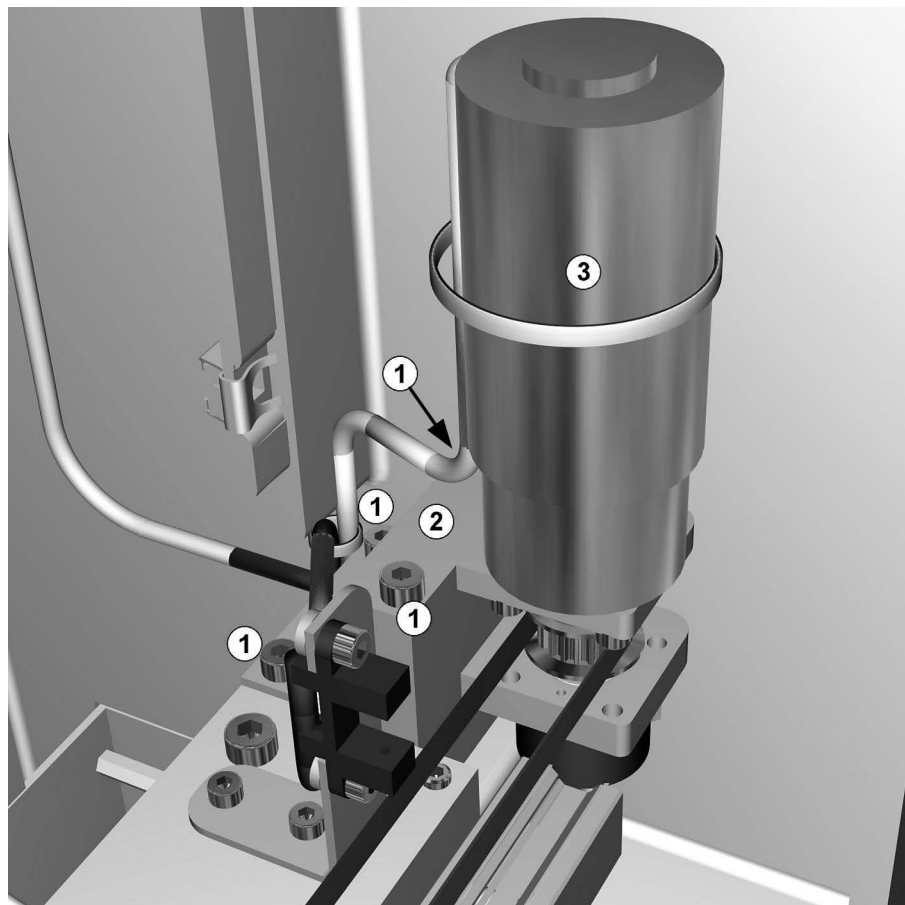

Figure 12-36: Installed X-motor/encoder
9. Remove the four screws from the X-motor/encoder bracket (2), see figure 12-36: on page 12-41.
10. Remove the X-encoder (3). It is necessary to destroy the X-encoder (3). Push a screw-driver into the slit between X-encoder (3) and the base plate (4), see arrow.
14. Install the X-motor/encoder bracket (2) and tighten the four screws (1), see figure 12-36: on page 12-41.